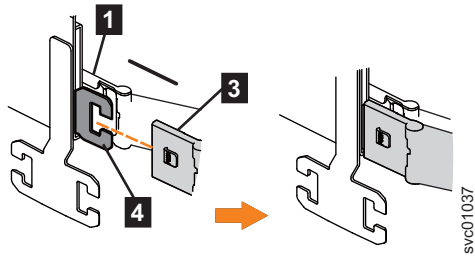

Figure 53. Install the inner connector of the upper CMA to the inner member of the support rail
3. Install the inner connector of the upper CMA assembly (**3**) to the inner member of the left support rail (**4**), as shown in Figure 53 on page 71.